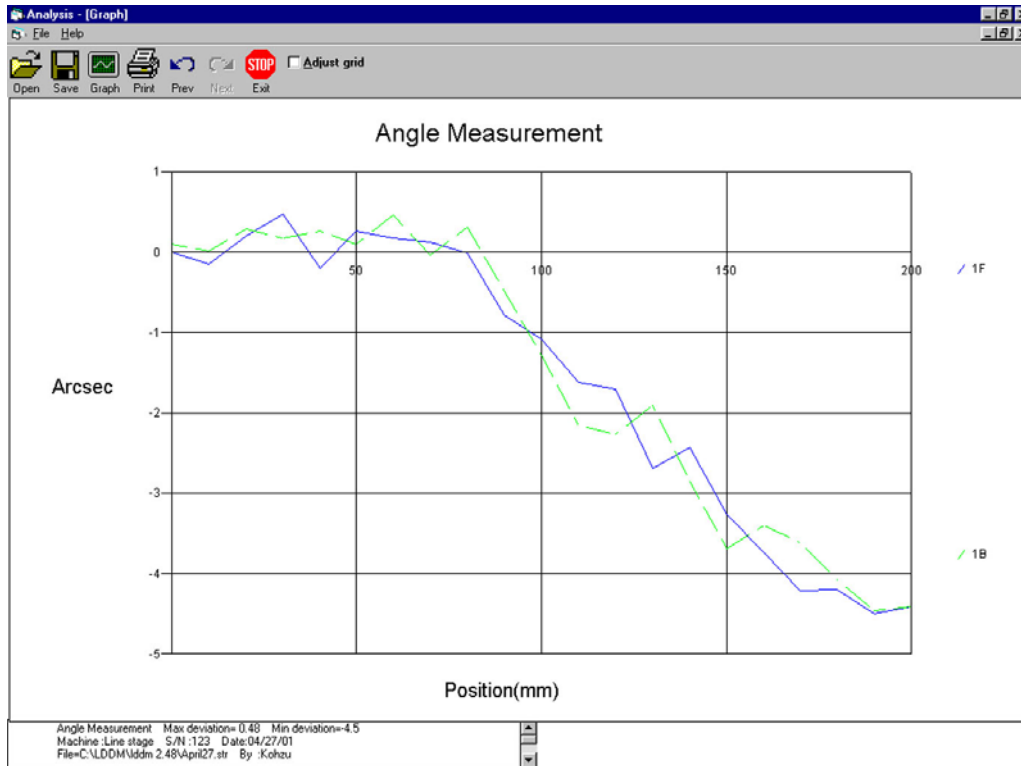

FIG. 8-7 PLOT OF MEASURED PITCH ANGLES IN ARCSEC vs. POSITION
14. Typical plots of pitch angle in arcsec (1 run), pitch angle in arcsec (7 runs), straightness and adjusted straightness are shown in Figs. 8.7, 8.8, 8.9 and 8.10 respectively, and their data is shown in Table 8.1.
After a measurement is completed, the data can be analyzed by the same software. The output of a typical measurement on a milling machine is shown in Fig. 8.7 to 8.10, and the data is shown in Table 8.1. The measurement here was on the x-axis with 0.5 in. increments, and 12 in. total travel. Fig 8.7 is the pitch angle in μrad vs. distance and Fig. 8.8 is the same pitch angle in arcsec vs. distance. Fig. 8.9 is the straightness vs. distance, where the initial slope is zero. Fig. 8.10 is the adjusted straightness vs. distance, where the deviation at both the start point and end point are zero. The measurement increment, total points, maximum or minimum angle or deviation and axis of motion are shown on the bottom of each plot.